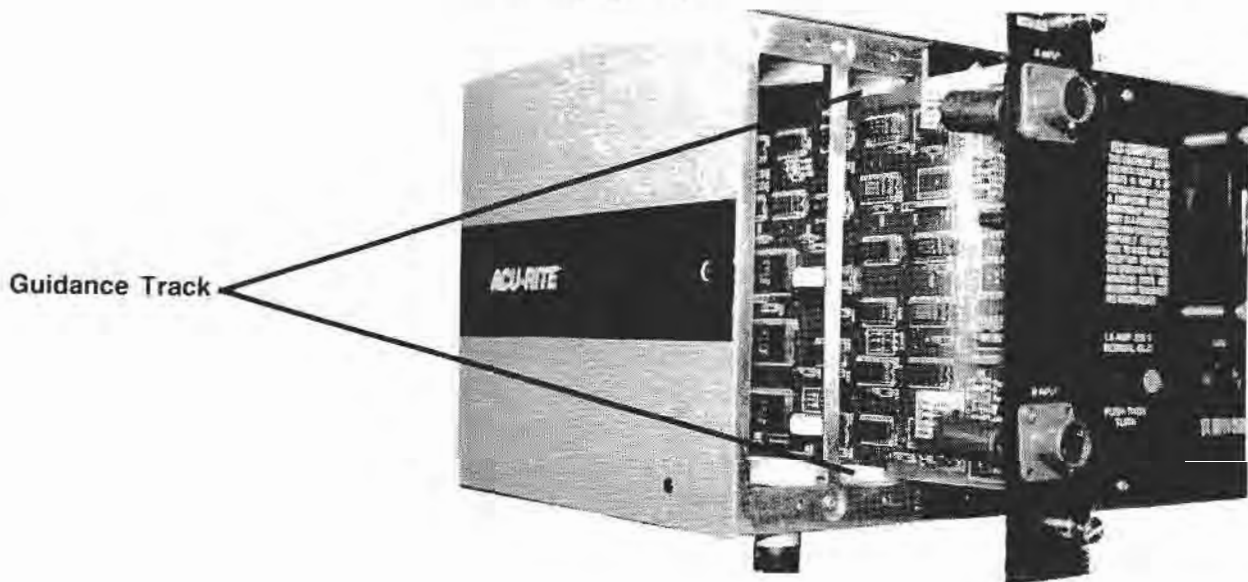

Figure 3. Module Installation.
1) Slide new module into chassis until rear plate is tight to chassis frame (Figure 3).